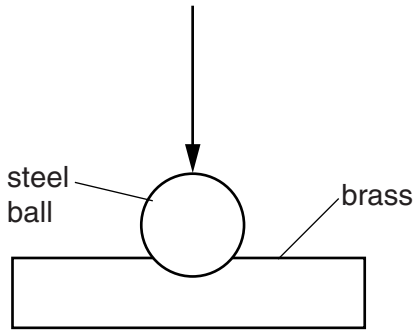

Fig. 3.2
- (d) The Brinell hardness test is a more precise way of testing the hardness of materials. A steel ball is pressed onto the material for 10 seconds (Fig. 3.2). The diameter of the indentation (Fig. 3.3) is measured to enable the Brinell hardness number to be calculated.